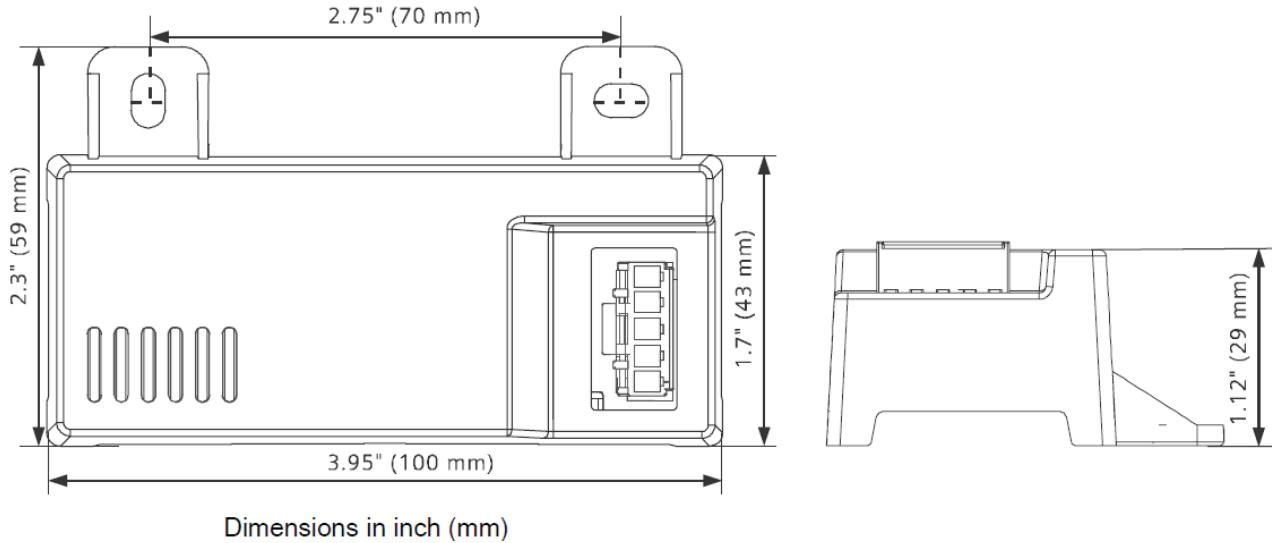
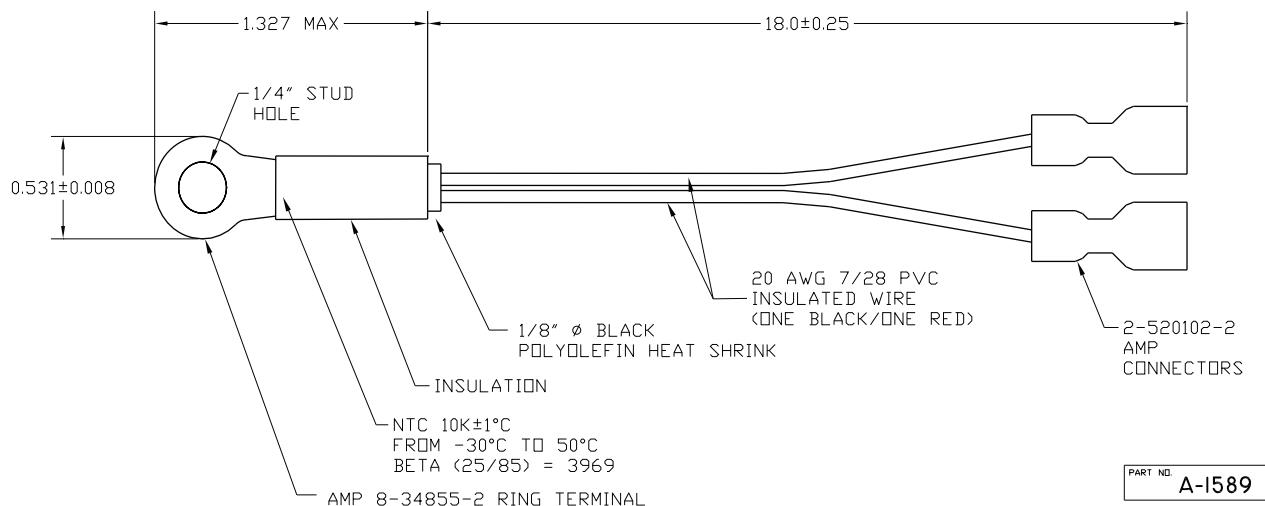
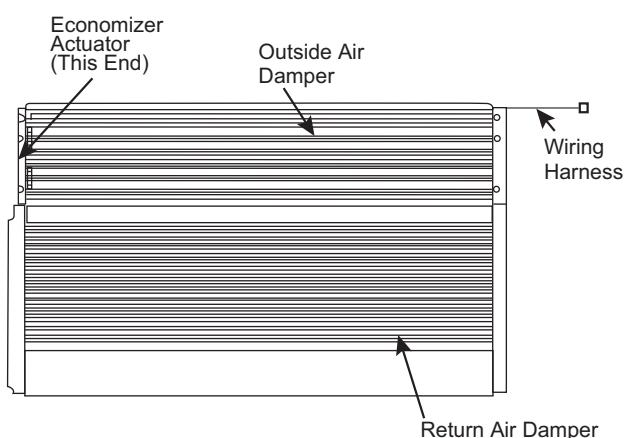

Fig. 57 — HH57LW001 Dimensional, Connection and Switching Information
Fig. 58 — HH79NZ039 Dry Bulb and Mixed Air Sensor Wiring
Fig. 59 — EconomizerONE System Component Locations
When using the HH57LW001 enthalpy sensor (see Fig. 57) for outside air changeover, the existing HH79NZ039 dry bulb sensor (see Fig. 58) must be removed. The enthalpy sensor will be mounted in the same location as the dry bulb sensor (see Fig. 59). When the enthalpy sensor's OA (Outside Air) temperature, enthalpy, and dew point are below their respective set points, outside air can be used for free cooling. When any of these are above their set point, free cooling will not be available. Enthalpy set points are configurable and create an enthalpy boundary according to the user's input. For additional details, see Fig. 60-61 and Table 23.
The optional enthalpy control sensor (P/N: HH57LW001) communicates with the POL224 economizer controller using the 5-wire harness, 48TC005213. The HH57LW001 sensor can be used as a single outside air enthalpy, a differential return enthalpy, or a differential return temperature sensor. Refer to the base unit control wiring diagrams found earlier in this book to wire the HH57LW001 enthalpy sensor for each option. See Fig. 57 and Table 25 on page 44 to locate the wiring terminals for each enthalpy control sensor.
Economizers are shipped standard with an HH79NZ039 outside air dry bulb sensor (refer to Fig. 58). System default setting (high temp limit) is 63°F (17°C) and has a range of 48°F to 80°F (9°C to 27°C). Sensor is factory installed on economizer.
If installing the optional HH57LW001 enthalpy sensor, the HH79NZ039 dry bulb outside air sensor must first be removed. Wire sensor to harness 48TC005213 and the (5) wires from the harness to the EconomizerONE harness in the return air chamber. Harness 48TC005213 has a 5-pin plug that connects directly to the HH57LW001 enthalpy sensor. Refer to the base unit control wiring diagrams earlier in this book for wiring connections. Refer to Fig. 57 and see Table 25.